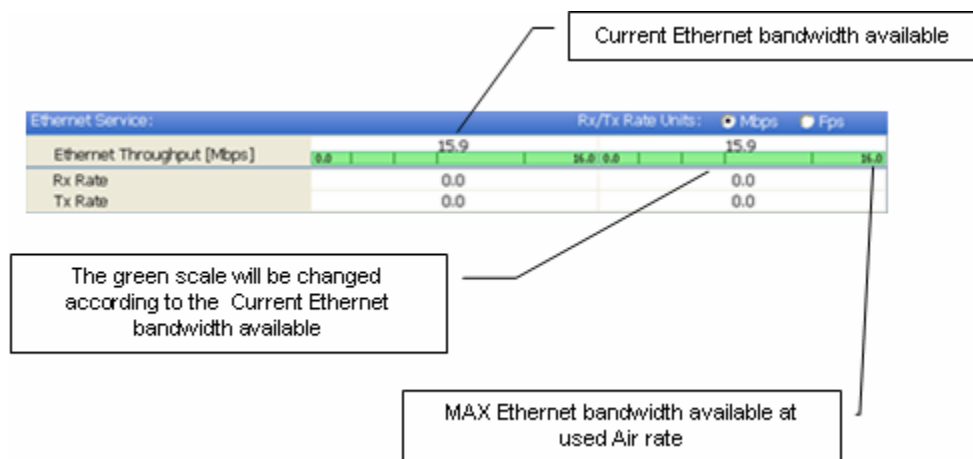

Figure 3-5. Ethernet Bandwidth Indication
- Current Ethernet bandwidth in Mbps. This is not the actual traffic rate, but the maximum capacity that can be supported currently, see *Figure 3-5*.